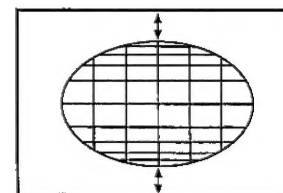

Fig. 8
- Adjust the S-correction to obtain a balance between upper, lower and center (fig. 8).